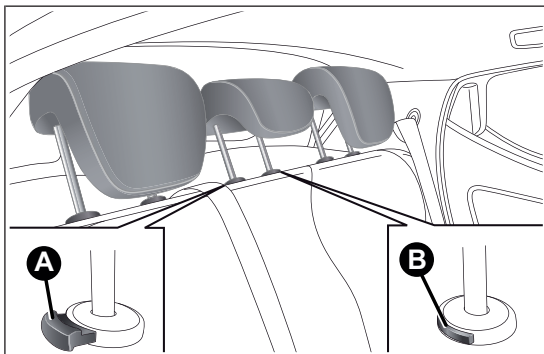

fig. 23
Downwards adjustment: press button A fig. 23 and lower the head restraint.
- press buttons A and B fig. 23 at the side of the two supports, then remove the head restraints by pulling them upwards.